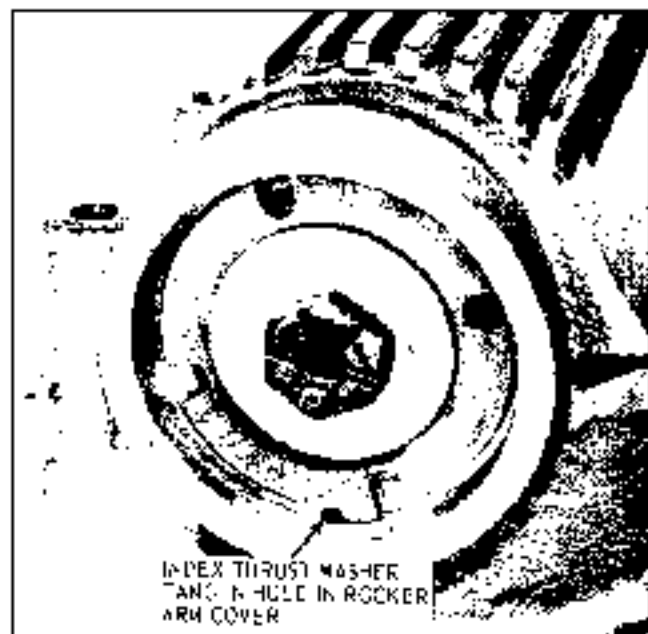

Fig. 6-6 Thrust Washer Installation
2. Install thrust washer in rocker arm cover as shown (Fig. 6-6).